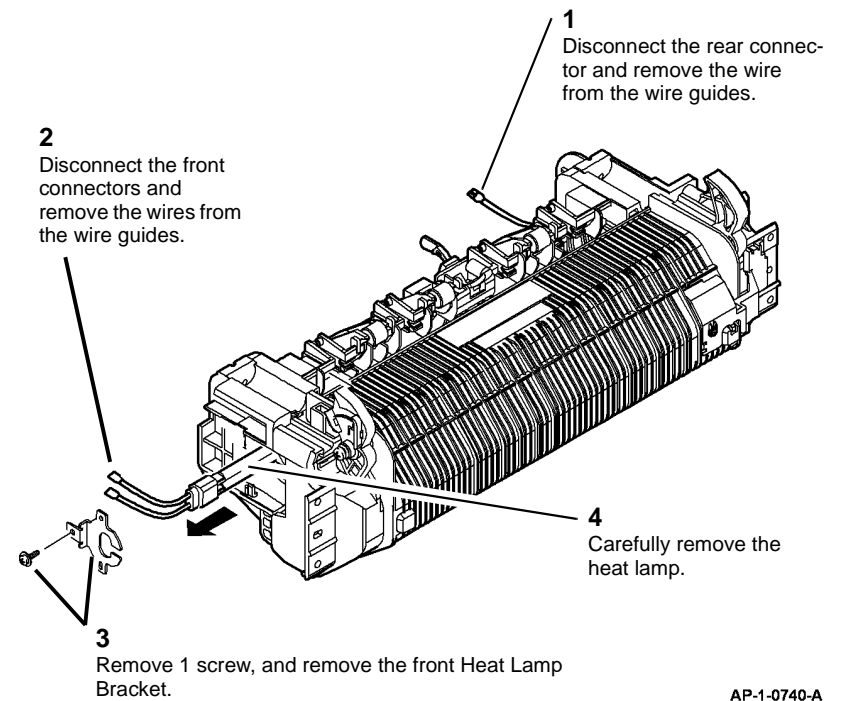

Figure 2 Removing the Heat Lamp Assembly
3. Remove the Heat Lamp Assembly (Figure 2).